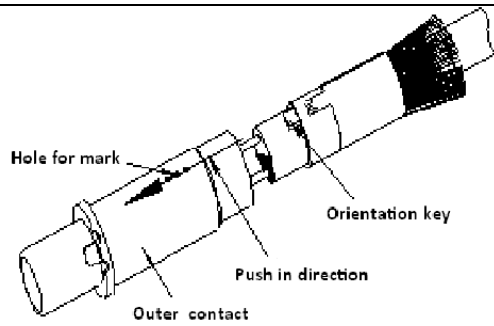

Fig 1.12
- 5) Socket assembly must be aligned with the hole for mark on outer contact and push in outer contact, then forward the crimp ferrule as illustrated, as fig 1.12, 1.13, 1.14 shown.